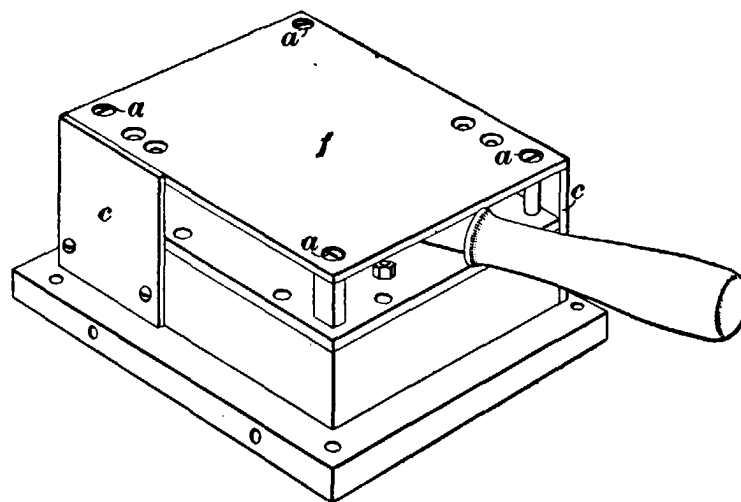

FIG. 16.
12. The General Electric Canopy Switch.—Fig. 16 shows one type of General Electric switch; the interior of this switch is readily exposed to view by removing the four